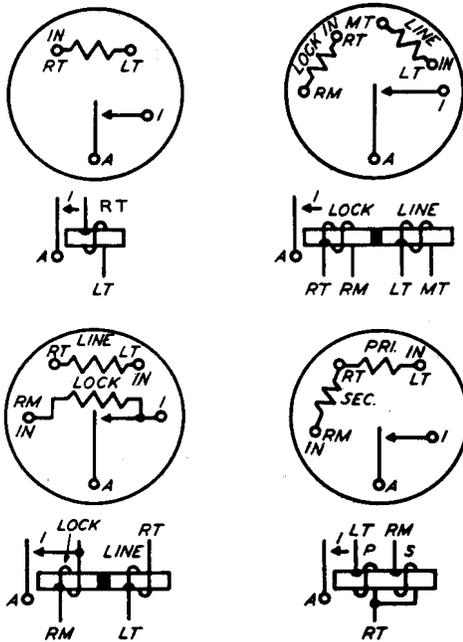

Fig. 27 - Winding and Spring Terminal Arrangement as Viewed From the Rear (terminal side) - 89-, 101-, 105-, 108-, 118-, and 172-Type Relays
2.41 The winding and contact terminal numbering is the same as covered in 2.37. These relays are, however, always mounted as shown in Fig. 27 through 30.